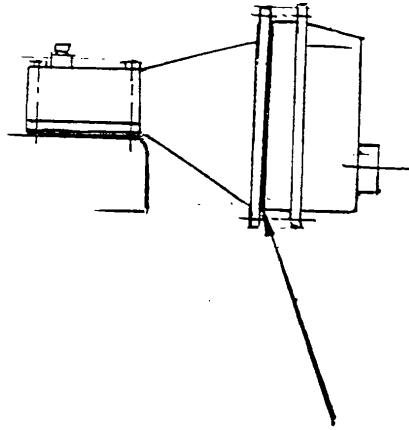

Figure 4. Flame Arrester Gasket
- (WEEKLY) 8. ( ) A copper gasket is installed between the intake flame arrester and the air intake adapter as shown in Figure 4.